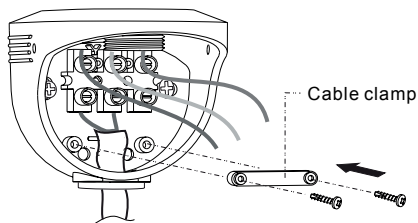

FIG. 9
3. Arrange cables with a cable clamp and secure it with two screws. The terminal block has to be pressed in between two bosses of bottom case (See FIG.9).